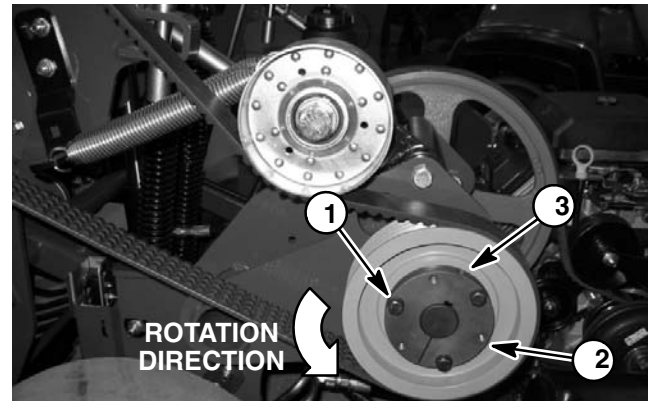

Figure 18
5. Loosen taper lock bushings (Fig. 18):
A. Remove three (3) cap screws and lockwashers that secure taper lock bushing to pulley.
NOTE: Jackshaft rotates counterclockwise as viewed from right side of machine (Fig. 18).